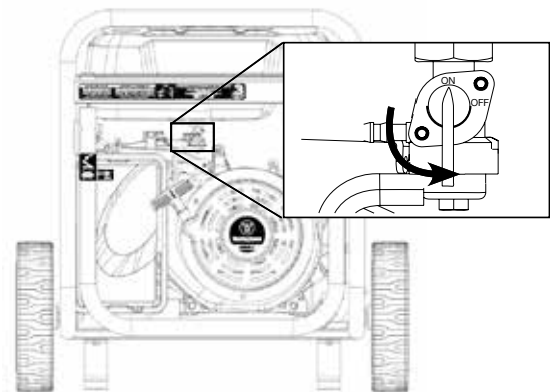

Figure 9 - Fuel Shut Off - ON
- ① 240/120V Main Circuit Breaker Operating Position
- ② 240/120V Main Circuit Breaker Tripped Position
- ③ 120V Circuit Breaker Operating Position
- ④ 120V Circuit Breaker Tripped Position
3. Move the fuel shutoff valve to the **ON** position (see Figure 9).